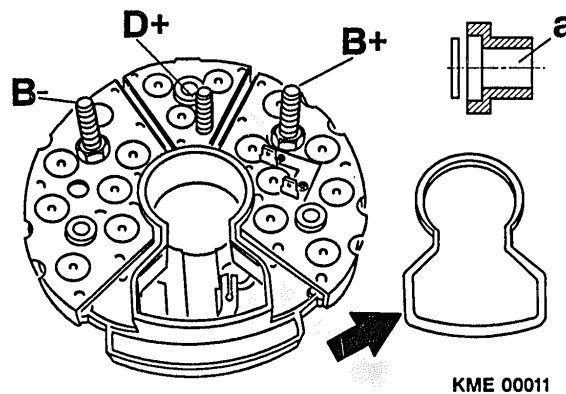

Figure 32 Rectifier Insulators and Seal
- 1. Place flat washer and insulator (a) onto terminal B+ and D+ studs of the rectifier assembly. (Figure 32)
2. Coat the keyhole shaped surface of the rectifier with adhesive. (Figure 32)